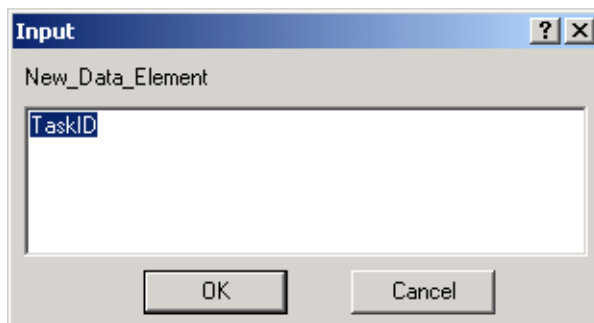

Figure 33-7. Input dialog with new data element input value.
- ④ Click **OK**. The data element has been added to the **Data Element** column in the **Document** tab dialog.
- ⑤ Now drag a data element from the Available Data Elements dialog and drop it in the source column. You can also right-click under the **Source** column and select **Display and Edit Source** from the drop-down column. The Input dialog appears (see Figure 33-7, below).